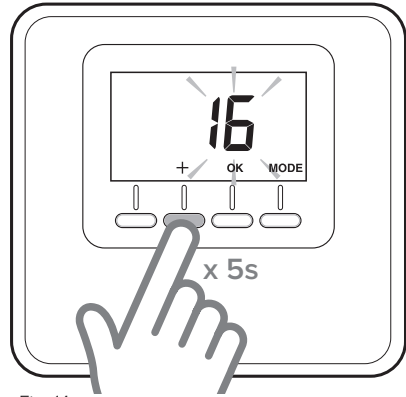

Fig. 14
- Hold the “+” key on the thermostat down for 5 seconds (Fig. 14). The display will alternate between the software version and modification index.